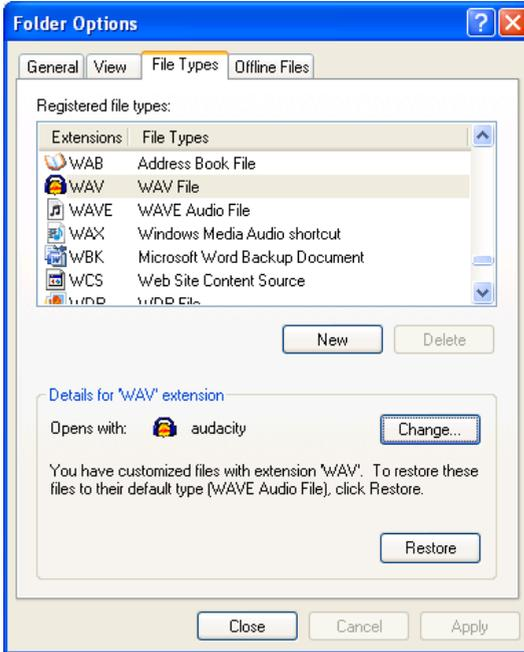

Figure A-5. File Types Tab in Folder Options
3. In Windows Explorer, click Tools > Folder Options > File types tab (Figure A-5).